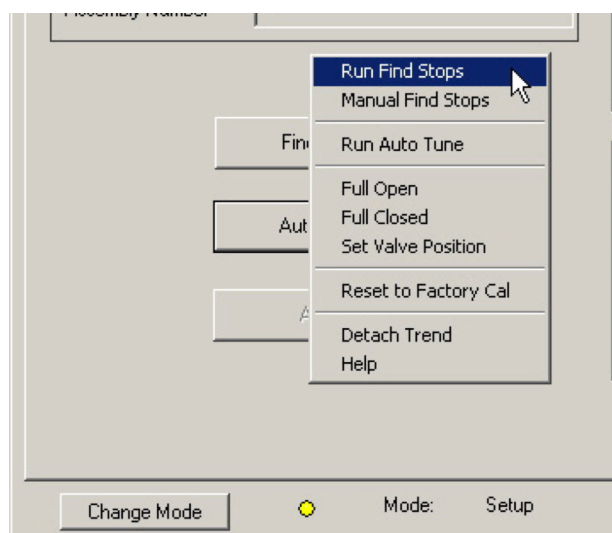

Figure 161 - Selecting Run Find Stops
1. Right-click in the screen and select **Run Find Stop** (*Figure 161*).